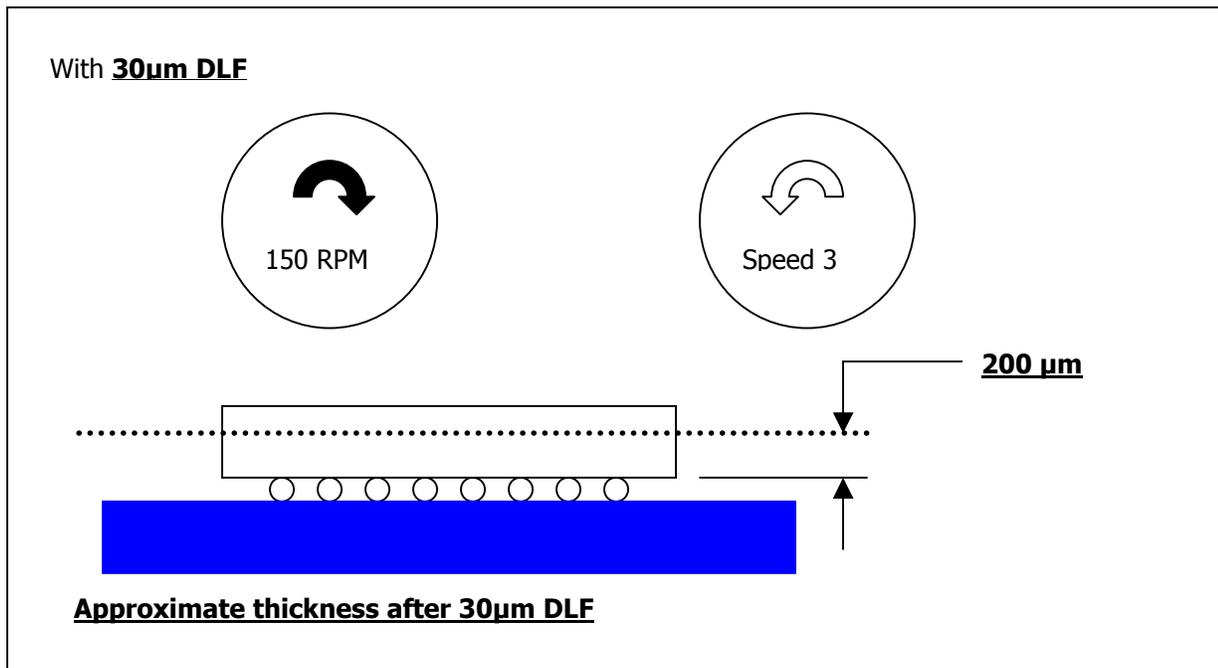

Figure 2
23. Using the vertical adjustment knob, lower the arm to remove all but approximately 200 microns from the device (see figure 2). For example, if the sample thickness equals 590 microns, lower the arm approximately 390 microns. **Note:** If the resolution of the vertical adjustment knob dial is too difficult to read, the dial indicator attachment (#15-Indicator) may be installed as an option (see back page).